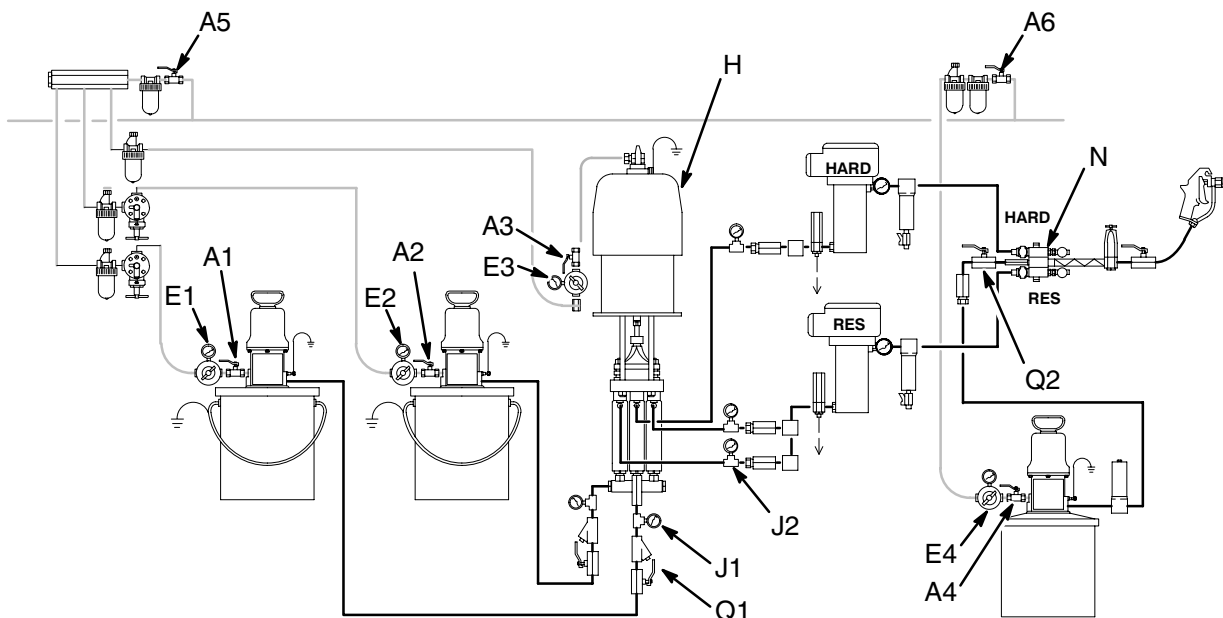

Fig. 12
2. Be sure both of the fluid shutoff valves (Q1) are open. See Fig. 12.
4. Be sure the feed pump air regulators (E1,E2) are at minimum pressure. See Fig. 12.
5. Open the main master air valve (A5). See Fig. 12.
6. Open the hardener pump master air valve (A1). See Fig. 12.
9. When the hardener lines are flushed, close the mixer manifold handle and close the drain valve (P1). Close the air valve (A1). See Fig. 12.
- a. Be sure the solvent pump air regulator (E4) is at minimum pressure. See Fig. 12.
- b. Open the solvent pump main master air valve (A6) and then open the pump air valve (A4). See Fig. 12.
- e. Close the solvent line shutoff valve (Q2). See Fig. 12.